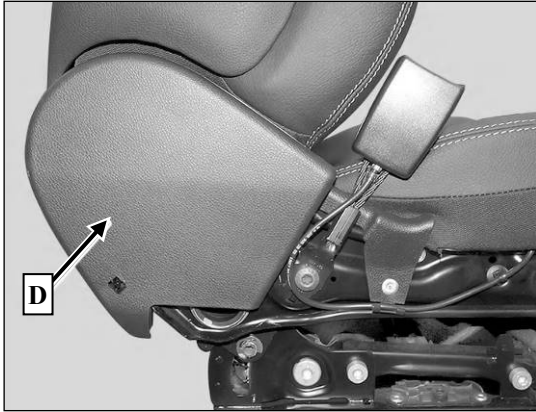
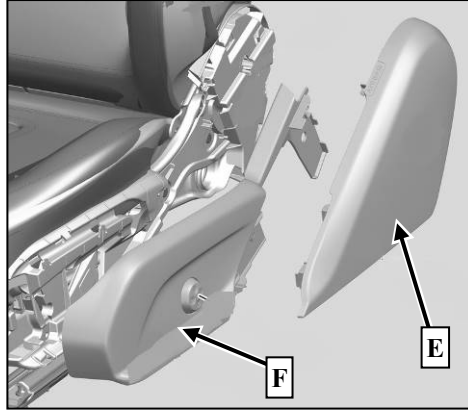

Figure 4
Figure 5
8. Check whether the side inner trims (**D, figure 4**) and side outer trims (**E and F, figure 5**) at the front seats (driver and front passenger seat) are present.